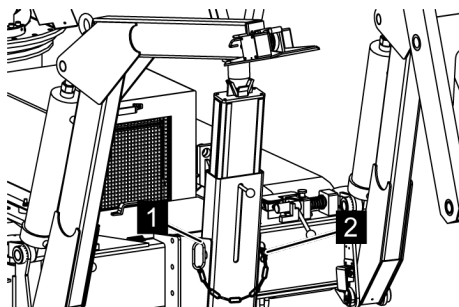

Fig. 77: Fastening bolts
5. ➔ Push the fastening bolts (Fig. 77/1) in and secure with the the spring cotter pin (Fig. 77/2).